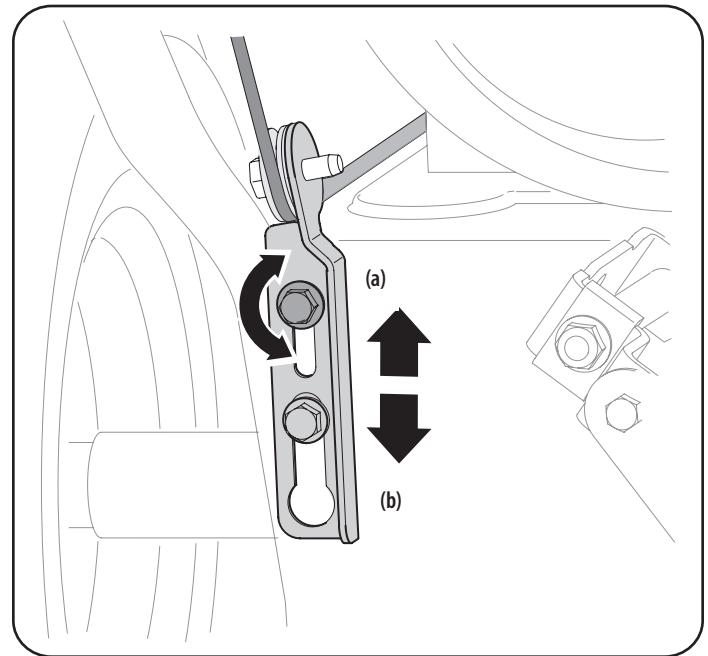

Figure 15
4. Allow auger to remain engaged for approximately ten (10) seconds before releasing auger control lever. Repeat this several times.
7. To readjust the auger control cable, loosen upper hex screw (a) on auger control bracket. See Figure 15.
8. Position bracket upward to provide more slack (or downward to increase cable tension). See Figure 15.